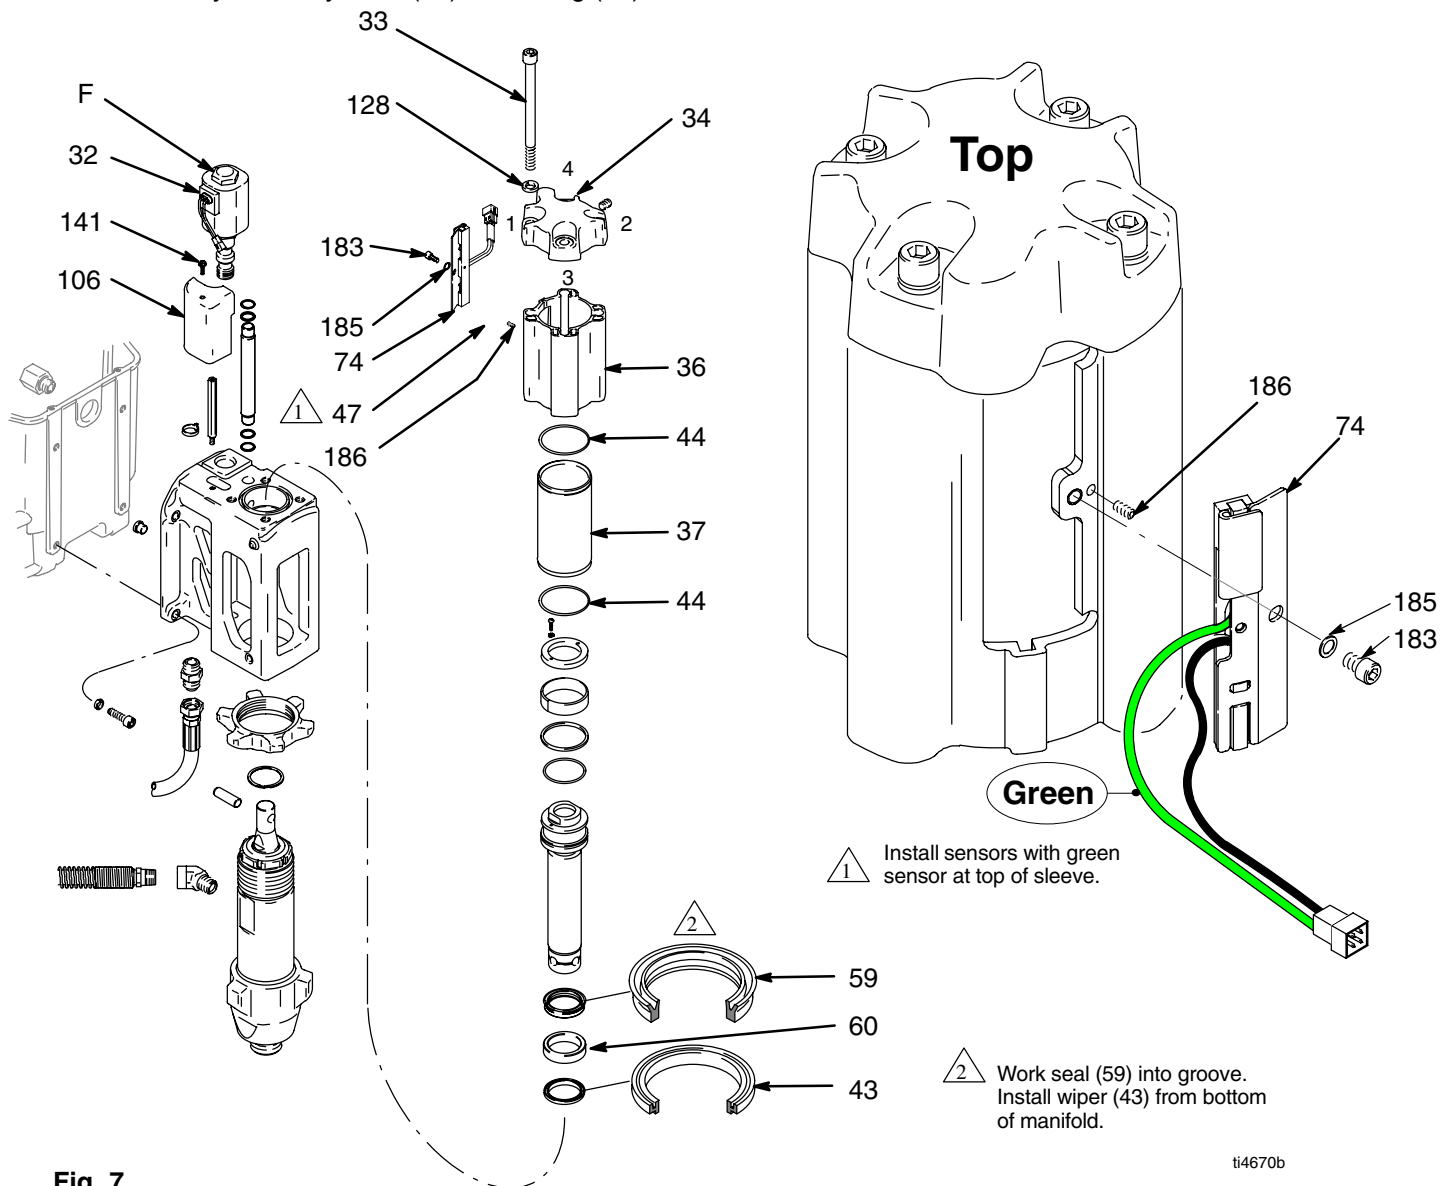

Fig. 7
2. Remove screw (183), sensor bracket (184), sensor (47) and lock washer (185) from cylinder sleeve (36).
3. Fig. 7. Remove four cap screws (33), washers (128) and cylinder cap (34).
4. Remove o-ring (44) from cylinder sleeve (36).
5. Remove screw (141) and cover (106).
6. Disconnect magnetic sensor (47).
7. Check for set screw (186). If installed, remove.
8. Remove cylinder sleeve (36).
9. Remove hydraulic cylinder (37) and o-ring (44).
2. Fig. 7. Remove large hex nut (F) on top of valve (32).